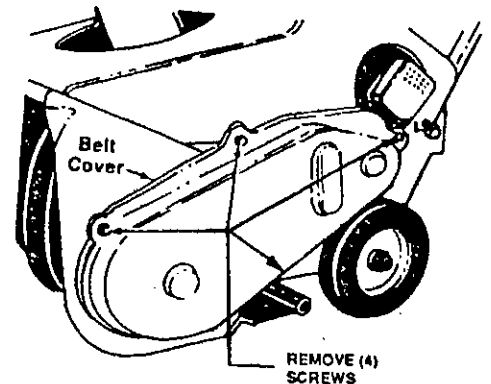

Fig. 6
1. Remove the belt cover by removing four (4) screws securing cover to housing (See Fig. 6).